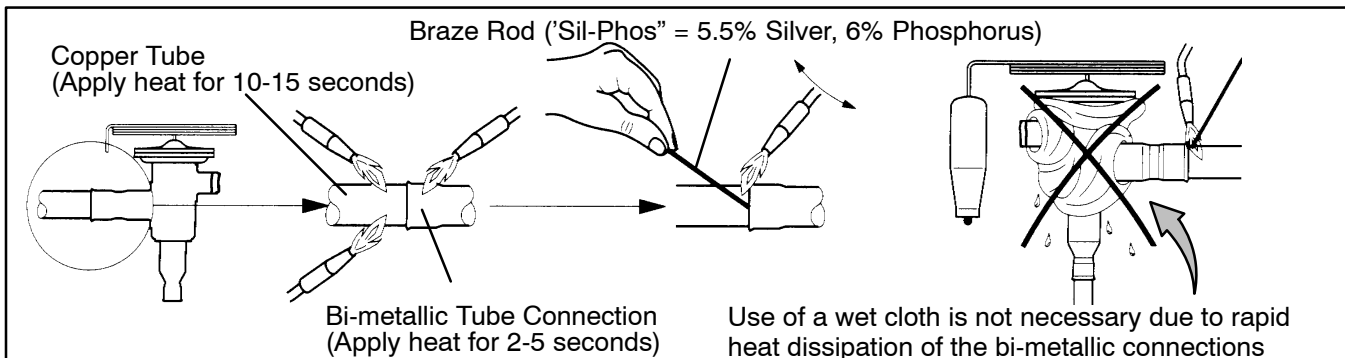

Figure 6-22 Hermetic Thermostatic Expansion Valve Brazing Procedure
4. Unbrazed the equalizer connection (1/4"), the outlet connection (5/8"), and then the inlet connection (3/8"). See Figure 6-22. Be careful to protect the insulation on the heaters and their wires.
1. Braze inlet connection to inlet line (see Figure 6-22).